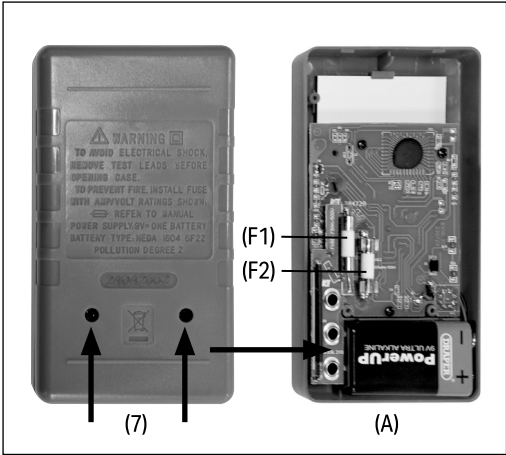

Fig. 1
4.1 Installing/Replacing the Battery - Fig. 1